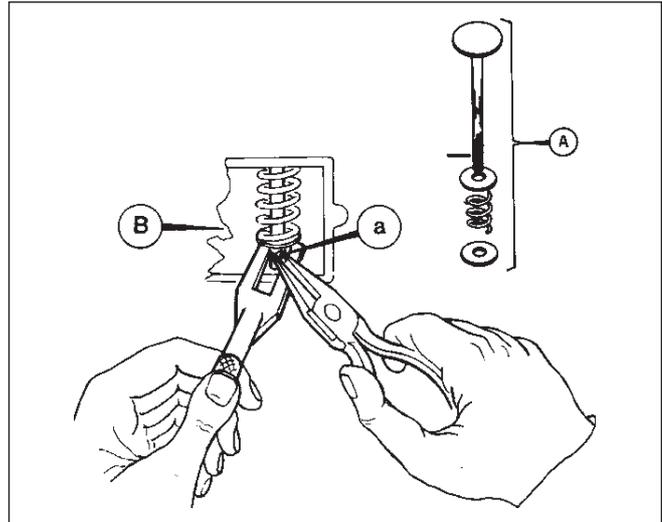

Fig. 8
**NOTE** - Early type valves were secured by a pin fitted through a hole in the valve stem and secured by the spring cap. This type can be removed by lifting the spring and removing the pin with a pair of long nosed pliers (Fig 8).